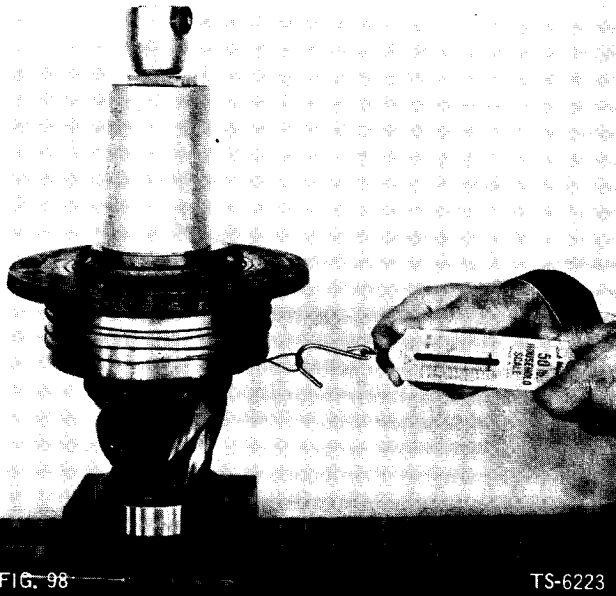

FIG. 98
- Keep pinion and cage assembly in press with approximately 500 pounds of press pressure exerted on driver. Wrap several turns of soft wire or cord around pinion cage and pull in horizontal line with spring scale. While pulling in straight line, (90 degrees from centerline of shaft), read spring scale and measure rotating torque (Fig. 98). Multiply reading on spring scale by one-half diameter of bearing cage to obtain preload torque. Correct preload torque is 13 to 23 in. lbs. If preload is not within these limits, remove shims to increase preload or add shims to decrease preload.